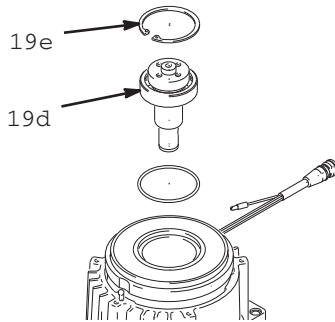

FIG. 11
5. Install four screws (16) and lock washers (17) with torque of 125 in-lb (14 N.m).
6. Tap pinion shaft (19d) in with plastic mallet (FIG. 11).